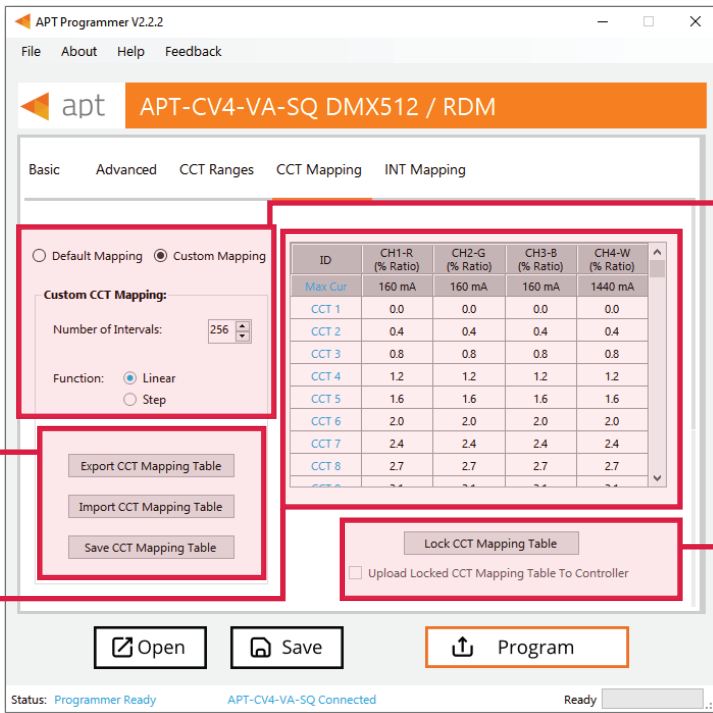

Figure 9: Programmer Interface window - CCT Mapping tab
Click **Lock CCT Mapping Table** to prevent changes from being made to the mapping table, this will also update the graph (shown in Figure 9).
*Tip: Scroll to the bottom of the window to see the graph (Figure 9) of the current mapping configuration.*